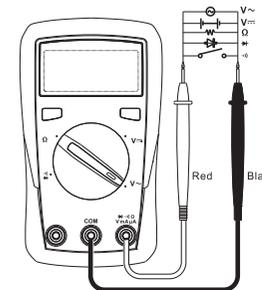

Figure 2
1.AC/DC voltage measurement (see Figure 2)
2.Resistance measurement (see Figure 2)
3. Continuity measurement (see Figure 2)
4. Diode measurement (see Figure 2)